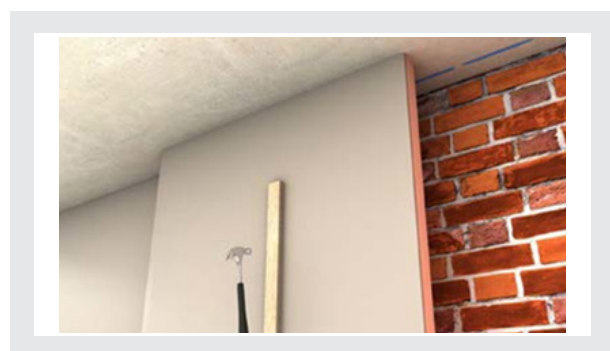

Figure 7
- Tap the board back firmly (Figure 7) using a straightedge, ensuring that the vertical edge is plumb;